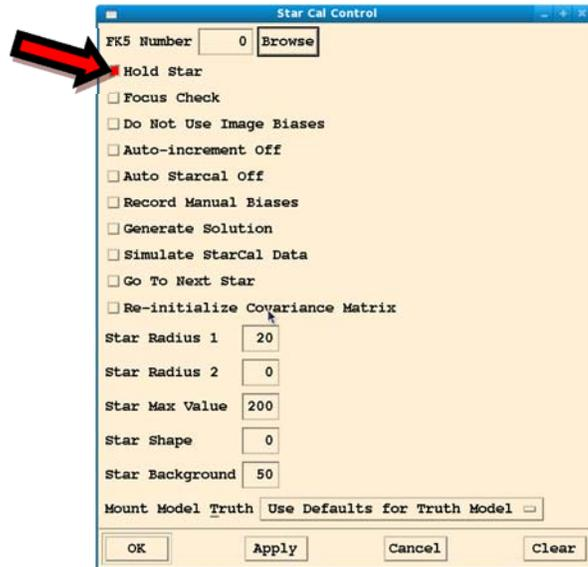

Figure 5-10: Star Cal control with Hold Star selected
7. **Hold the current star in position** – Go to **Control => Star Cal** control menu and select **Hold Star** (Figure 5-10). Wait to hit apply until you are on the star.